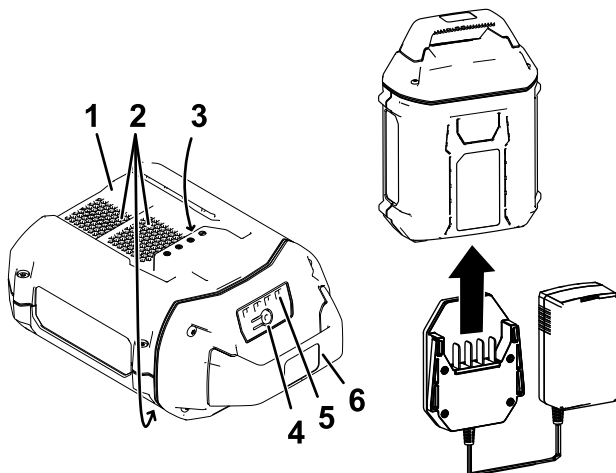

Figure 2
2. Line up the cavity in the battery pack (Figure 2) with the tongue on the charger.
3. Slide the charger into the battery pack until it is fully seated (Figure 2).